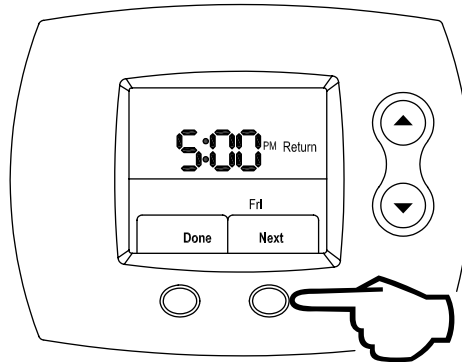

Figure 134
Step 17: Press the **RIGHT** (Next) button to lock in the Return period start time, which is shown in Figure 134.